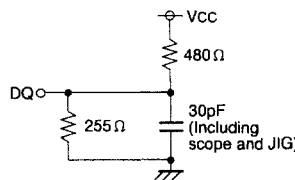
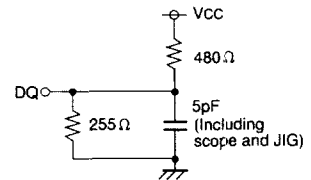

Fig.1 Output load
Fig.2 Output load for ten, tdis
Output loads Fig1, Fig2
3. Transition is measured $\pm 500\text{mV}$ from steady state voltage with specified loading in Figure 2.